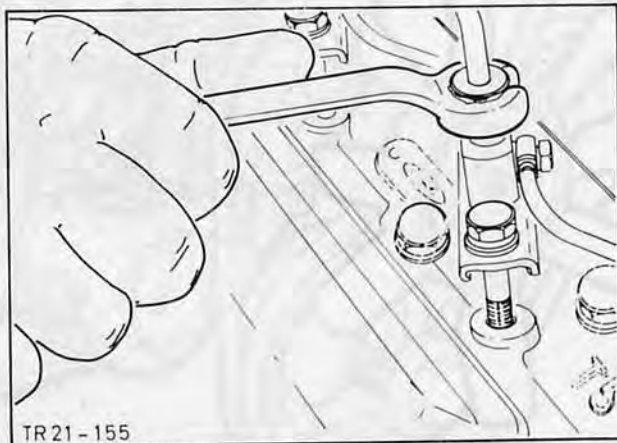

Fig. 42. Unscrew injector lines using Special Tool 21-041
3. Using special tool 21-041 remove overflow pipe from nozzles, injection pump and injector lines, Fig. 42.